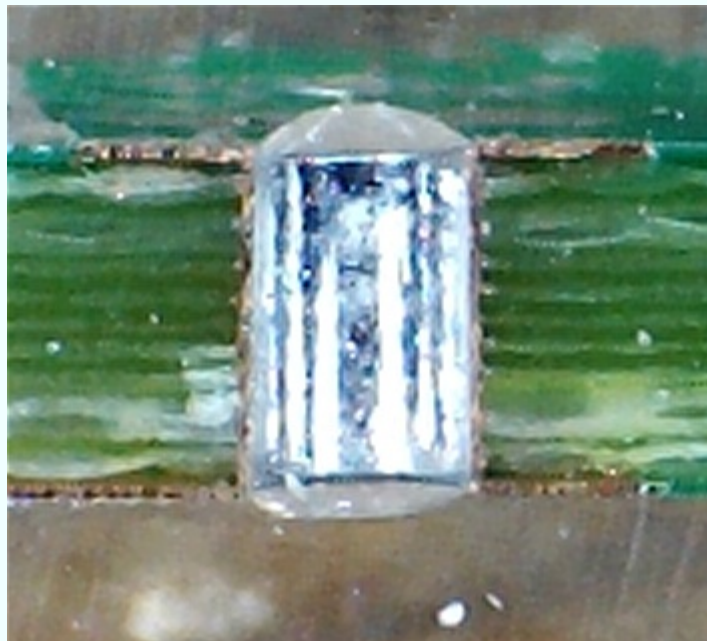

*Figure 2-12. Proper solder tip and solder application*
**Figure 2-12** illustrates the recommended application of the soldering iron tip to all surfaces for best heat transfer. After you apply the solder iron, immediately apply the solder so that it contacts both the tip and the heated surfaces. Once the solder flows, remove the tip and let the joint cool undisturbed. Don't linger after the solder has flowed, or the bad things discussed above will happen, possibly ruining a perfectly good day. Don't apply too much solder. The soldered joints should not look like bumps but should have concave fillets. Practice on a scrap PC board until you feel comfortable and your solder joints look shiny and have nice fillets.